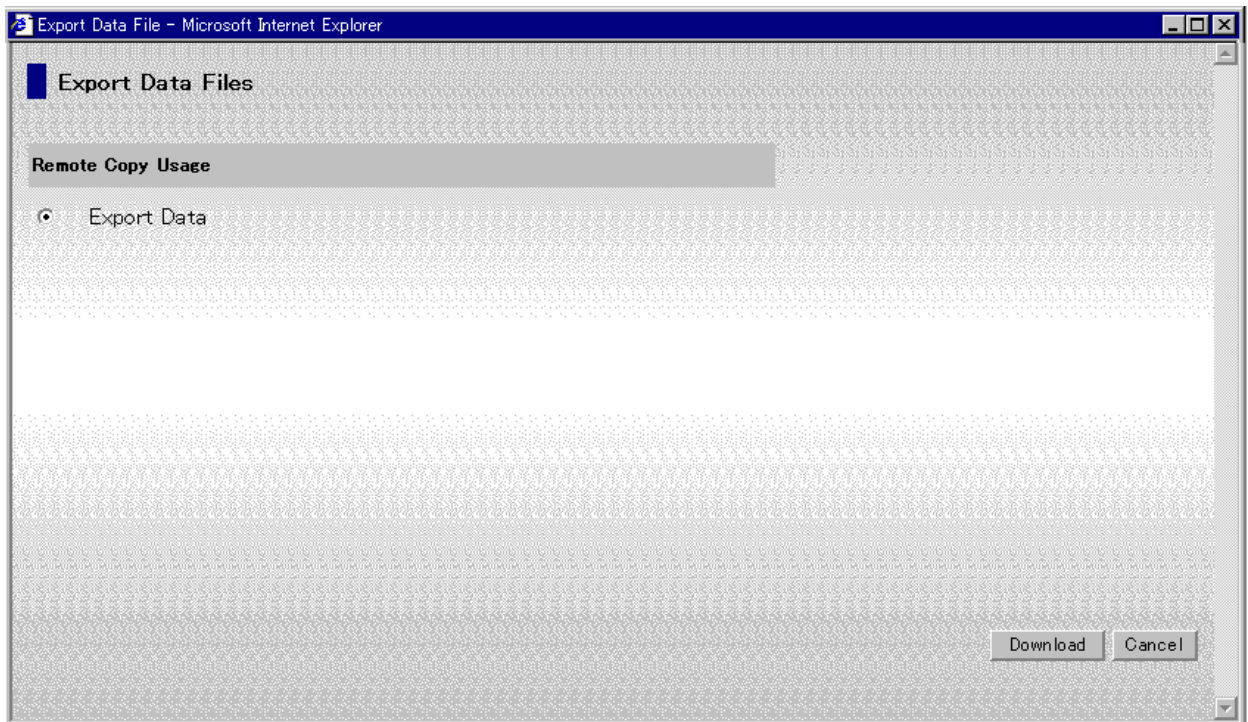
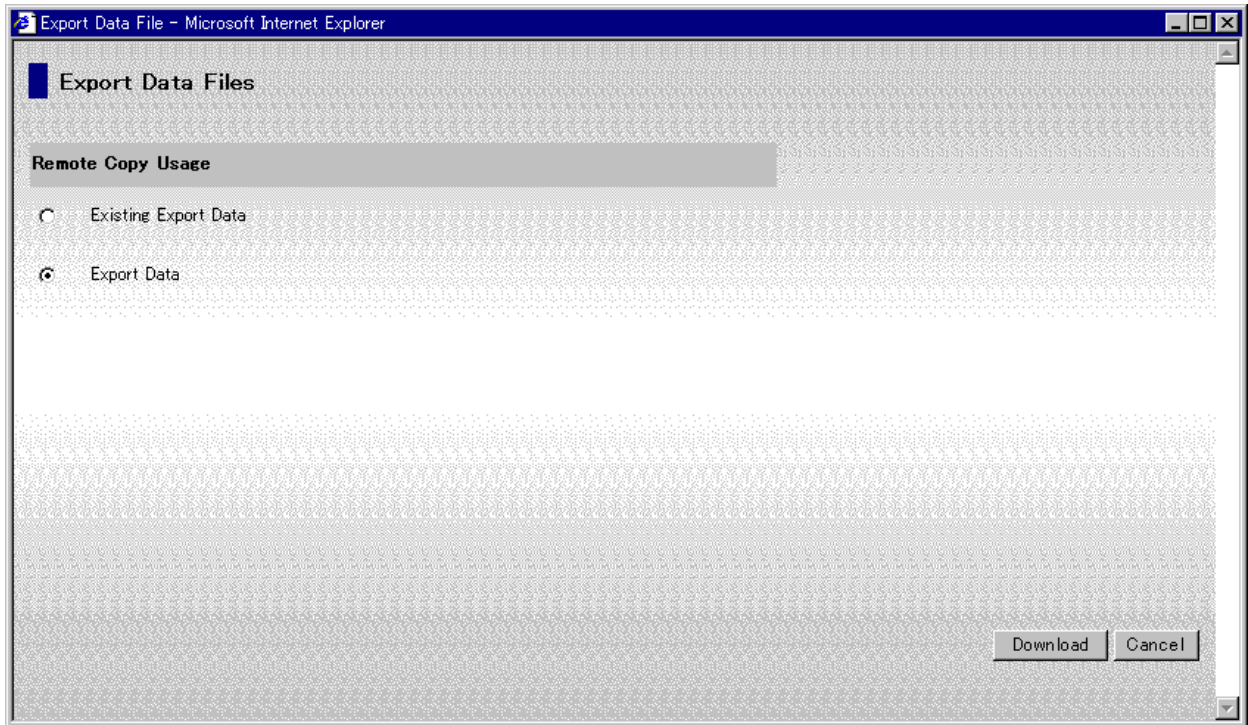

Figure 4.36 Export Data Files – Remote Copy Usage (first export operation shown)
Figure 4.37 Export Data Files – Remote Copy Usage
4. Click **Next>>** to open the Remote Copy Usage panel (see Figure 4.36, Figure 4.37).
- When you are downloading the usage monitor file for the first time, select **Export Data** (see Figure 4.36), and then select **Download**.
- After you have downloaded the usage monitor file at least once, select **Existing Export Data** (see Figure 4.37), and then select **Download**.
4. Click **Next>>** to open the Remote Copy Script panel (see Figure 4.36, Figure 4.37).
5. To download the script trace files, select **Existing Export Data** (see Figure 4.37) (or select **Export Data** if you are downloading script trace files for the first time), and then select **Download**.